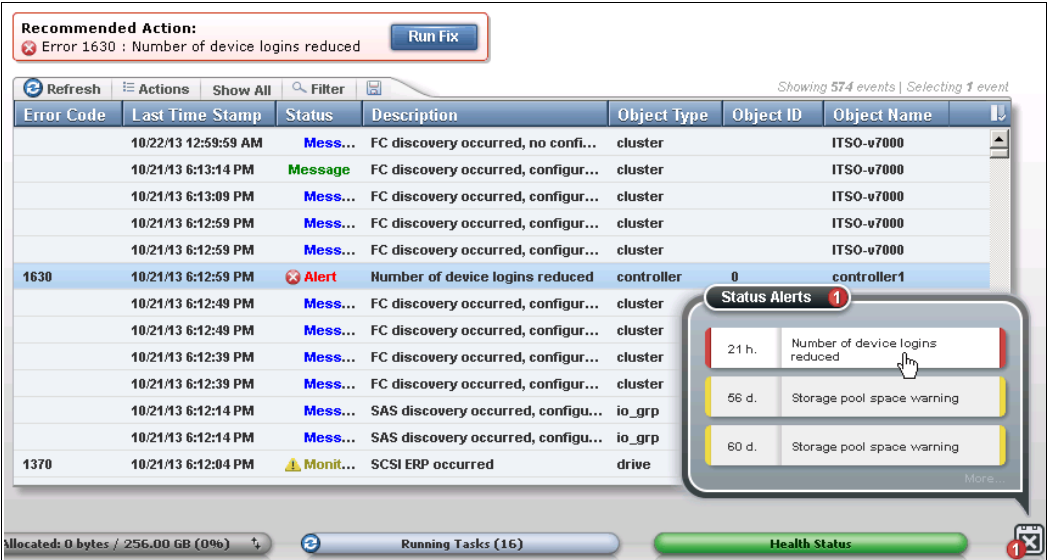

Figure 13-21 Messages in the event log
1. Select **Monitoring** → **Events** to see all problems that exist on the system (Figure 13-21).